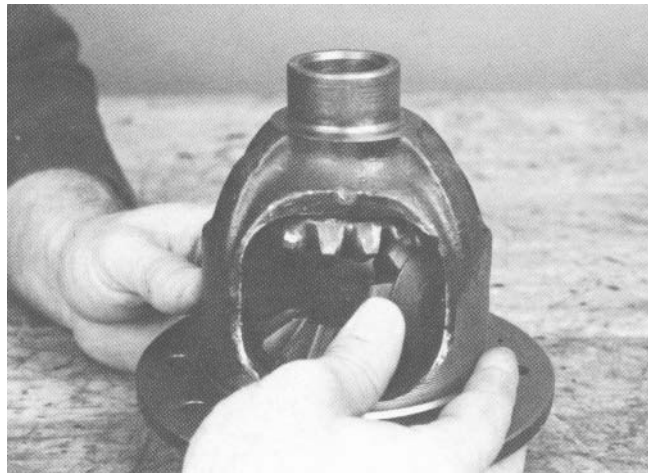

Figure 47
15. Place the differential case in a vise as shown (Fig. 47). Apply grease to new side gear thrust washers and hubs of the side gears. Apply grease to new pinion mate spherical washers and pinion mate gears. Place the side gears and thrust washers in the case. Install the pinion gears while holding the side gears in place.